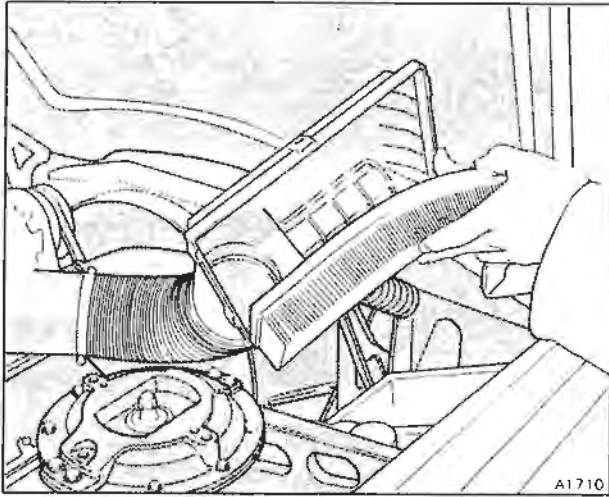

Fig.J3-2 Renewing the air filter element
2. Turn the top cover as shown in figure J3-2.